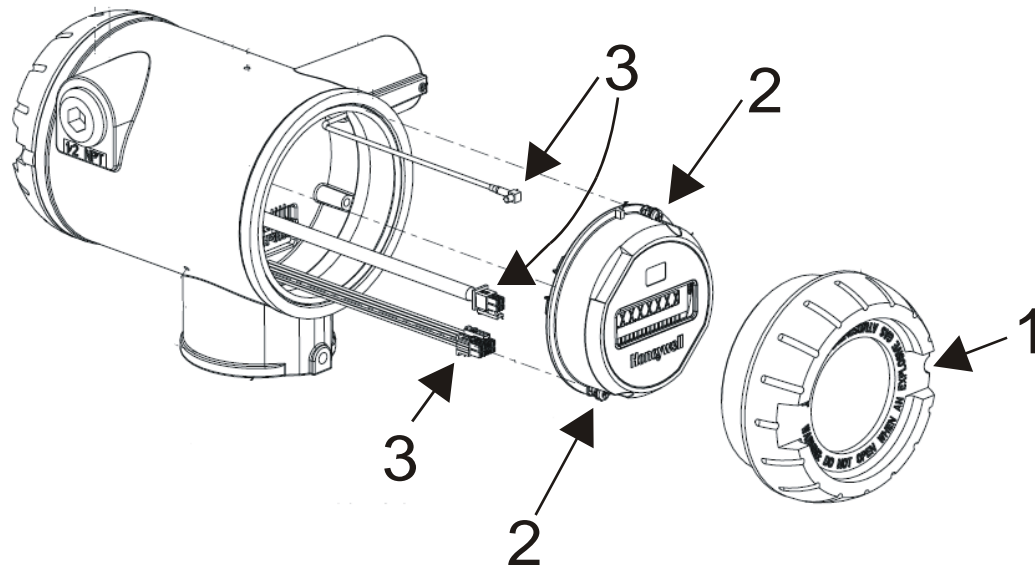

Figure 6-2 Sensor module removal and replacement
2	Loosen the M3 locking set screw on the display end-cap. See item 1 in Figure 6-2. Unscrew and remove the end cap.
3	Loosen the two screws on the sensor module. See items 2 in Figure 6-2.
4	Disconnect each connector on the sensor module. See items 3 in Figure 6-2